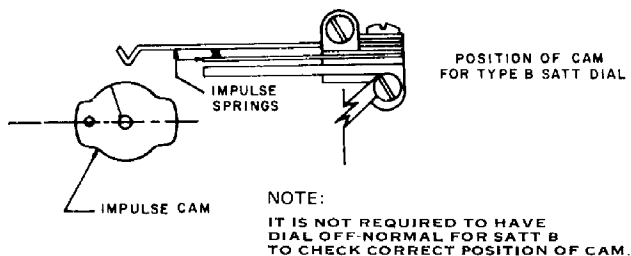

Figure 15. Position of Impulse Cam for Type B SATT Dial.
10.12 Type B SATT Impulse Cam. Set the impulse cam with the long axis parallel to the impulse springs. The dial should remain in the normal position when setting the impulse cam for Type B SATT operation (Figure 15).